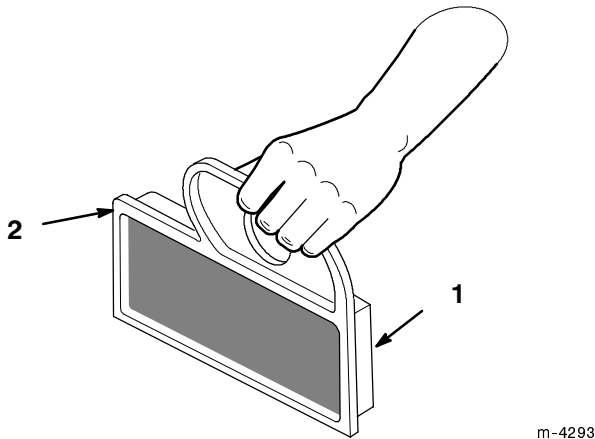

Figure 40
- A. Lightly tap the element on a flat surface to remove dust and dirt (Fig. 40).